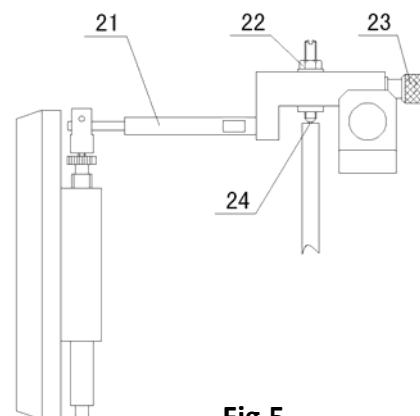

Fig.5
After the hardness tester is properly placed, open the Upper Cover (13) and the Back Cover (12). Untie the fastening rubber tape on the Connecting Rod (21)(Fig.5), and draw out the foam block under the Protecting Gasket(24) and Lever(14). Untie all the white gauzes bands on moving parts and then recover the Upper Cover and Backer Cover to keep away dust.
5.3 The Regulation of Displayed Hardness Value (Fig.5)